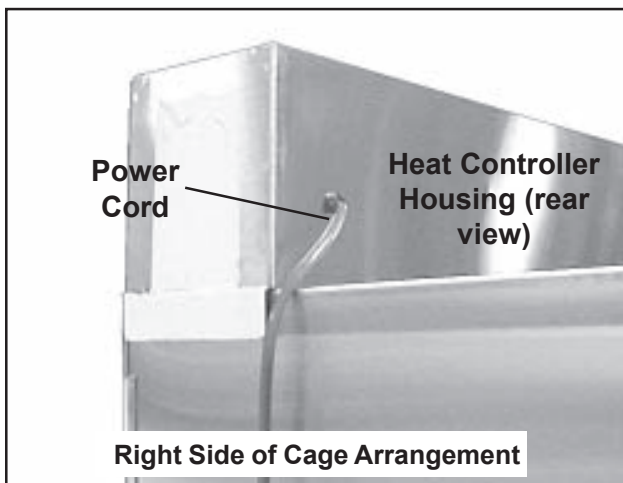

Figure 13. Heat Controller Housing Power Cord
- a. Plug the heat controller housing power cord into a standard 110VAC outlet (Figure 13).
24. Plug the heat controller housing power cord into a standard 110VAC outlet (Figure 13).